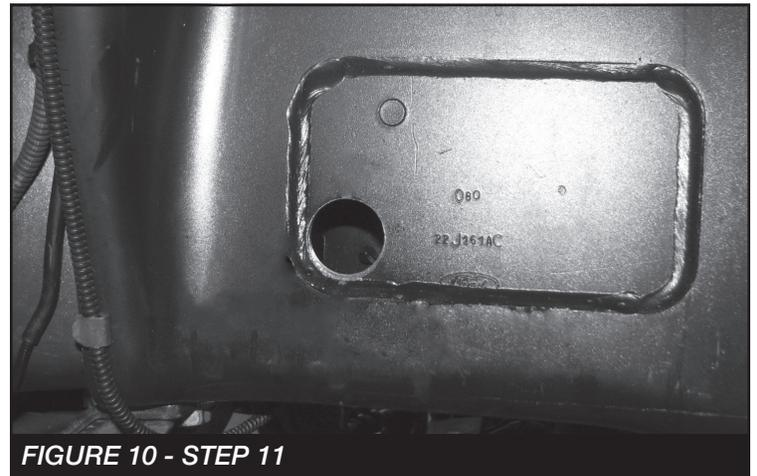

**FIGURE 8 - STEP 10**
10. Install FT30653 (Bump Stop Extension) onto the factory cup using the supplied 1/2" x 1-1/4" hardware and set aside. Torque to 127 ft-lbs. **SEE FIGURE 8**